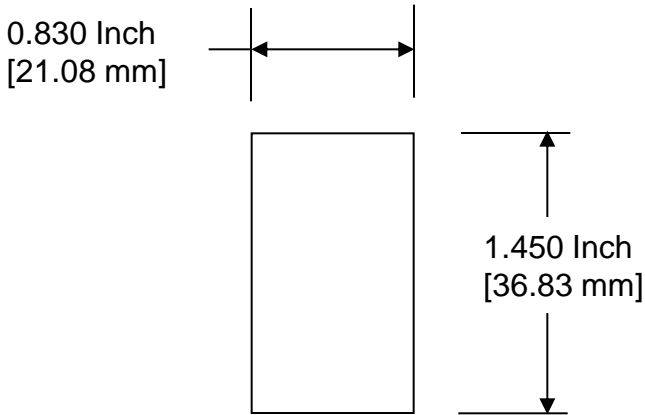
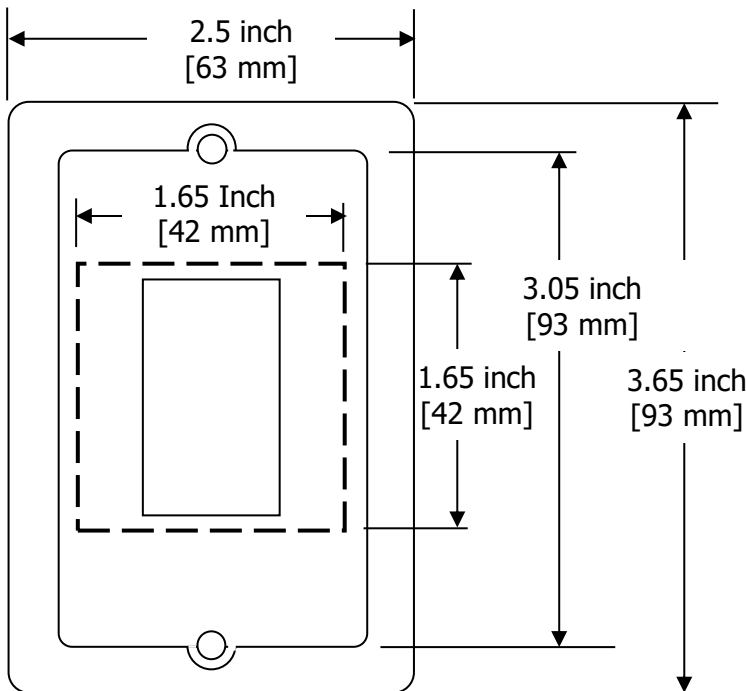
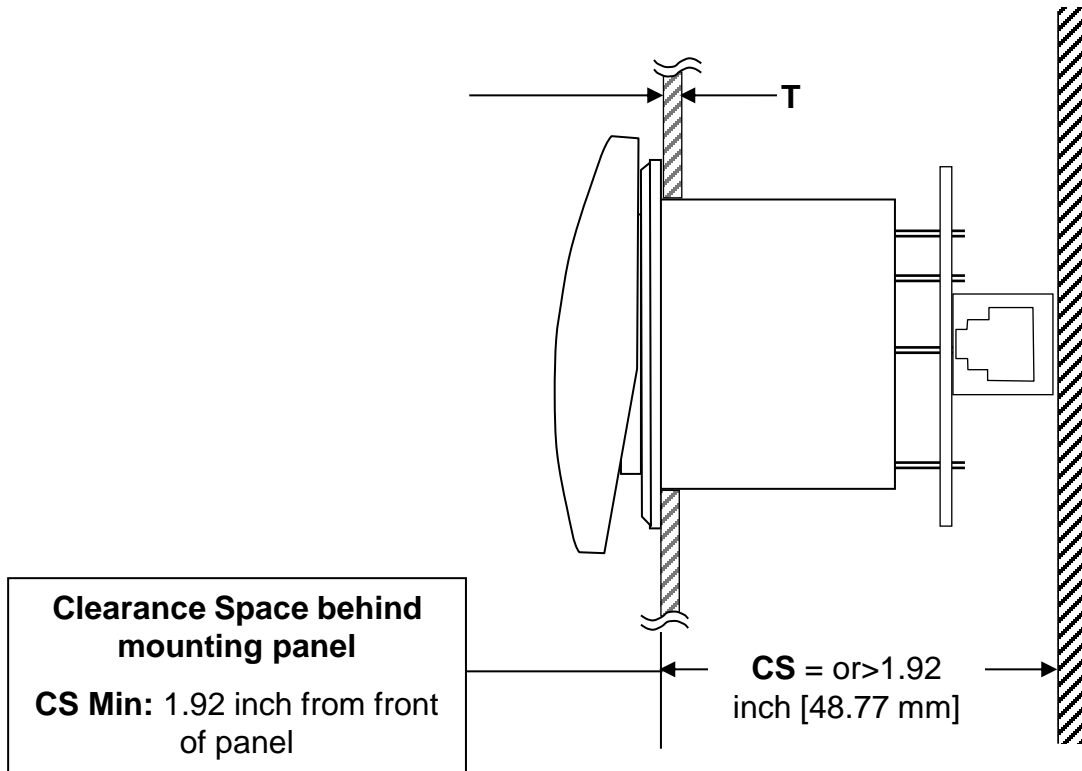

Fig.1 Panel cutout
Fig 2. Panel cutout (dotted) with Dress Plate
Fig. 3
1. Single SVT switch Mounting: Single switches fit the industry standard cutout and will normally drop-in fit into a pre-existing standard panel opening. If the panel needs a new cutout or for panel design refer to Fig. 1. If using the included Dress plate refer to Fig 2. For panel thickness and behind-panel clearance refer Fig. 3 Pg 2
Note: Panel thickness greater than 0.187 [4.75 mm] requires use dress plate mounting method shown in **Fig. 2**